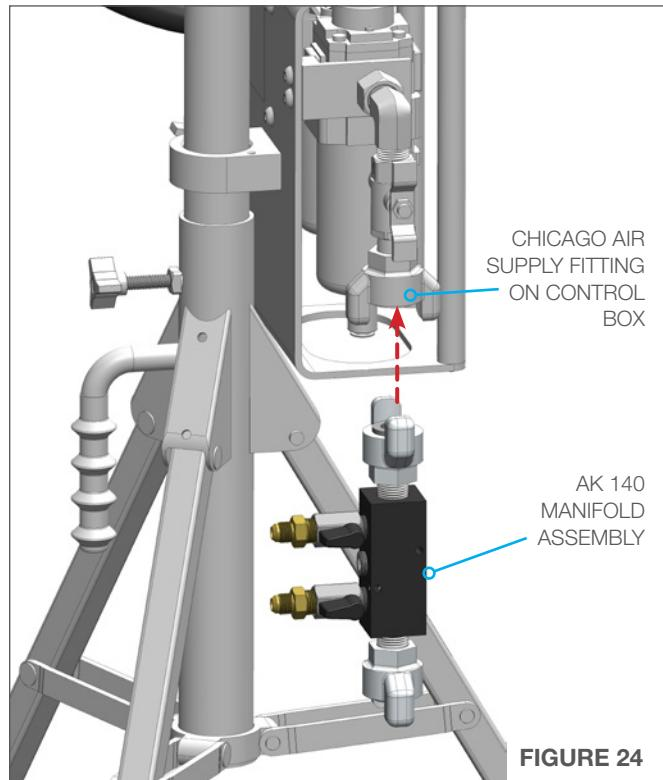

FIGURE 24
1. Twist the Chicago Air Fitting on the AK 140 Manifold Assembly onto the Chicago Air Fitting on the Control Box. (**Figure 24**)